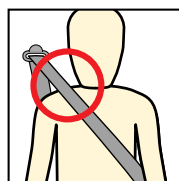

Figure 3
Step 3: Does the sash (shoulder) belt sit across the middle of the shoulder, not on the neck or out near the arm? (refer Figure 3).